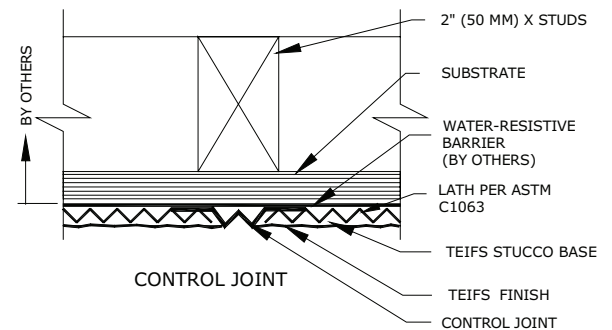

Fig. 10.2
- Control joints placed to create wall panels no larger than 144 sq. ft. (13.4 sq. m.) or with a length-to-width ratio no greater than 2.5:1, with no dimensions exceeding 18 ft. (5.6 m) (Fig. 10.2).